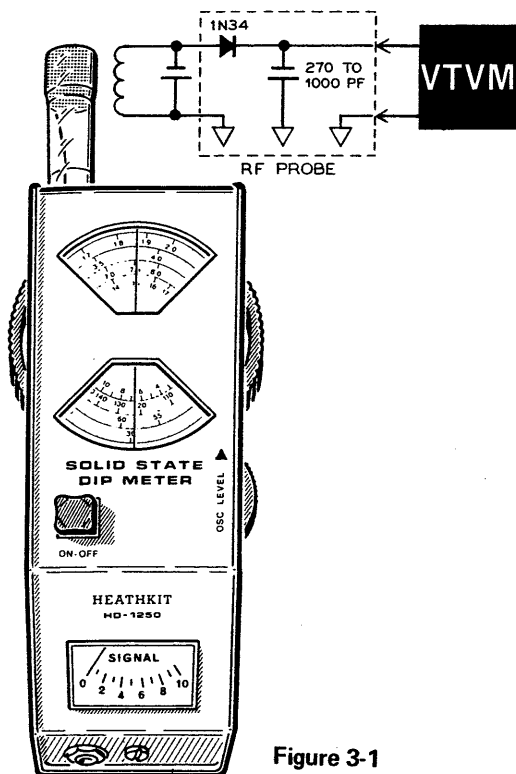

Figure 3-1
Refer to Figure 3-1 for the following steps.
2. Connect a high impedance input voltmeter (through an RF probe) across the test circuit as shown in Figure 3-1. Use the lowest range of the voltmeter.